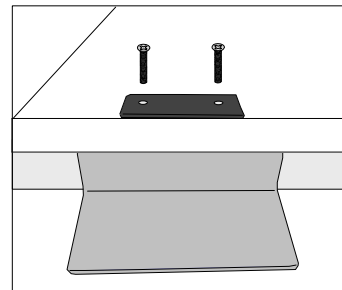

FIG. 3
3. Use provided #10 screws to attach pedal. (FIG.3)